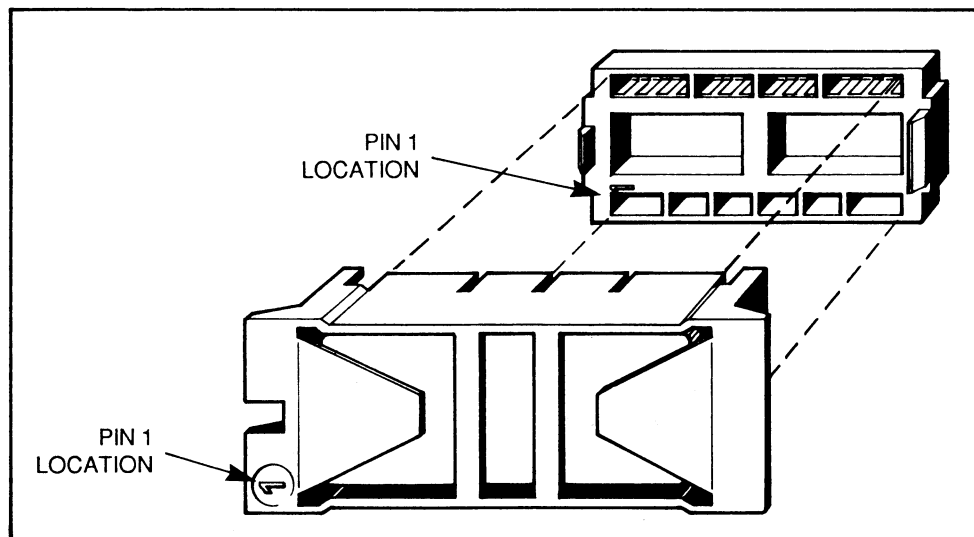

Figure 2-2. Installing the Firmware Chip
3. Install the SoftScreen firmware chip into the socket, orienting pin one of the chip holder to pin one of the socket, as shown in Figure 2-2 below. Apply gentle, even pressure, and be sure that no pins are bent or out of alignment.